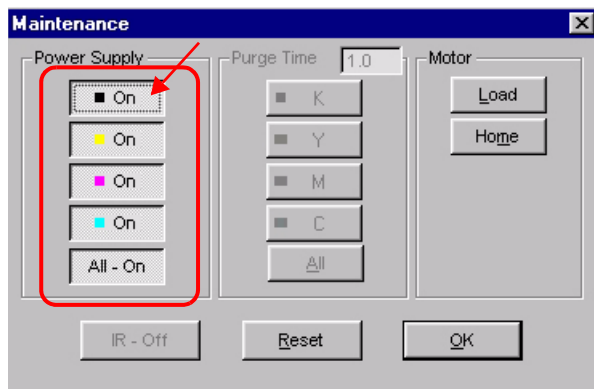

Figure 52. **Maintenance Dialog Box - 35V Power ON**
The Maintenance dialog box opens - see Figure 52.
5. Under the *Power Supply* controls, turn **OFF** the 35V power supply to the print heads in accordance with the respective color to be changed. (In this example, we will begin by turning off the heads that use *black* ink by clicking the appropriate black button  which is currently in the On status as shown in [Figure 52]).